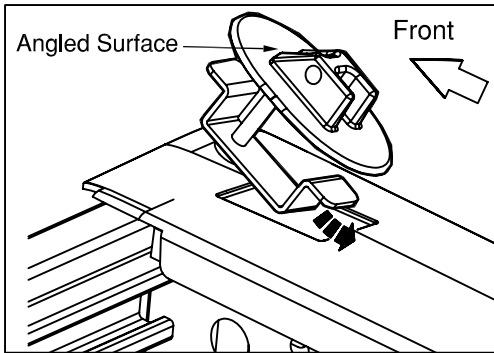

Fig. 5
6. Rotate the assembled Base into the front stake pocket hole. The front locations must be oriented so the angled surface is facing the front of the vehicle. (See Fig. 5) While inserting the bracket, twist slightly towards the outside of the vehicle. Hand tighten only.